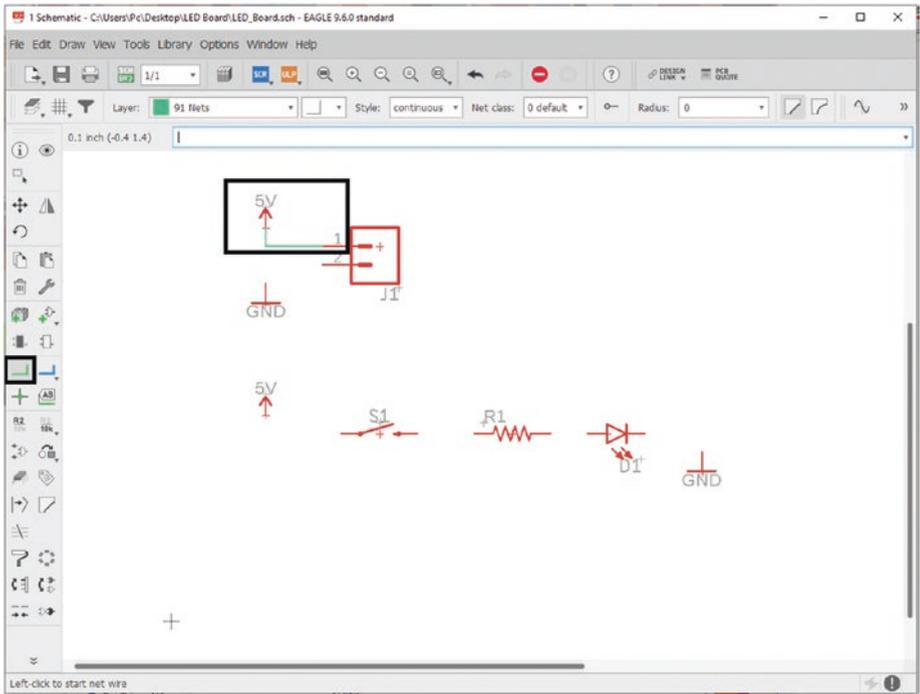

Figure 5-43. Connect the 5V net to the terminal block
30. Connect 5V to the 5mm terminal block. See Figure 5-43.
- 31. If you want your schematic to look just like Figure 5-43, you can cycle through the different directions of net shapes by right-clicking while the net button is active.